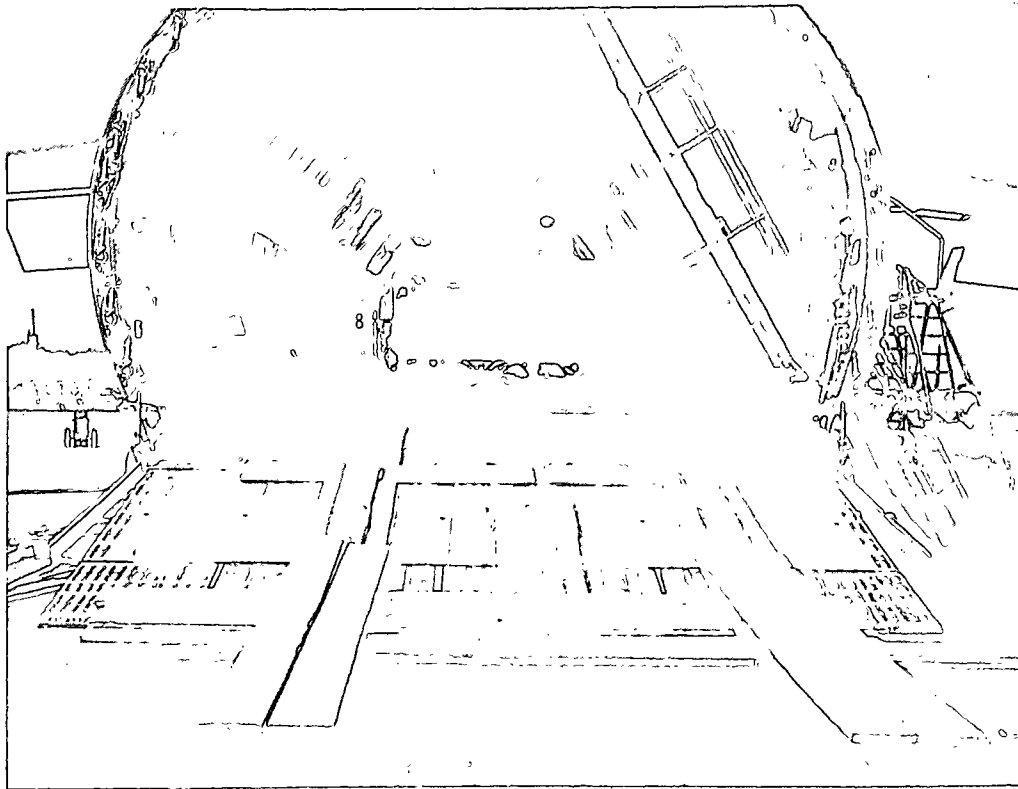

Figure 2-55. Ramp-toe extension formed to decrease ramp angle when loading the UH-1 helicopter.
d. Position the eight pieces of 2-by 12-inch by 16-foot lumber, eight pieces for each treadway, at the ramp toes to form a ramp extension as shown in figure 2-55.